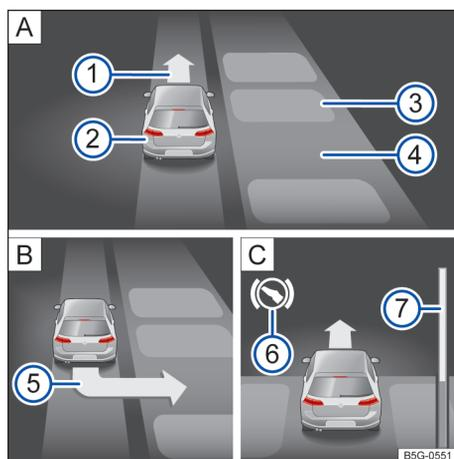

Fig. 121 In the instrument cluster display: Parking perpendicular to the road.
- Drive into the parking space when the prompt to park appears → fig. 121 .
When the prompt to park appears → fig. 121 ⑤, select a different parking mode by pressing the **Pa** button → fig. 119 again. After all relevant parking modes have been displayed, Park Assist switches off automatically. The originally recommended parking mode is displayed again if you press the **Pa** button → fig. 119 another time.
Key to fig. 121: